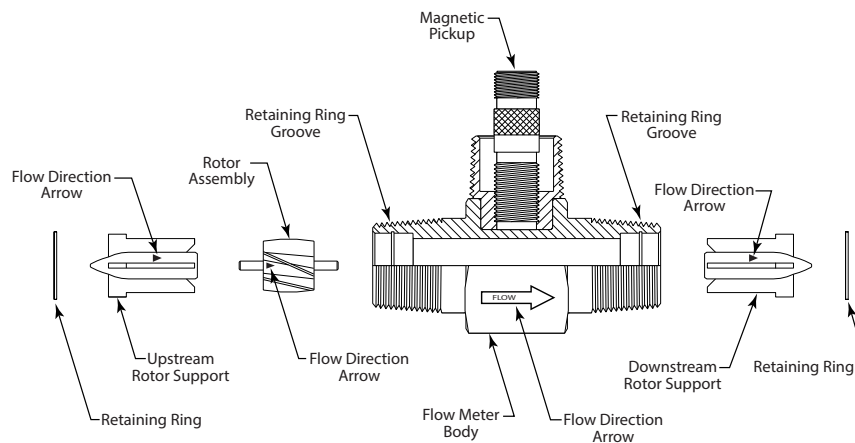
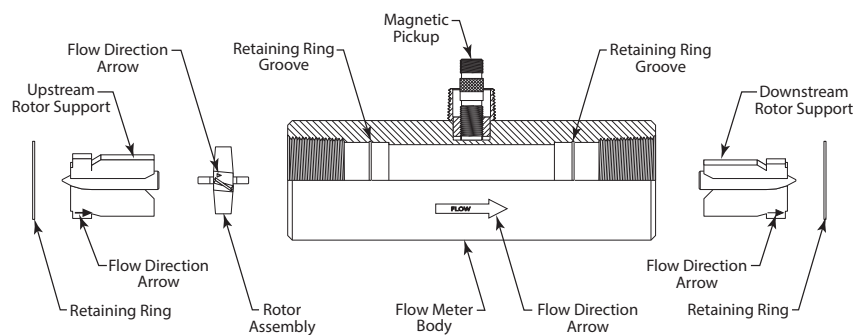
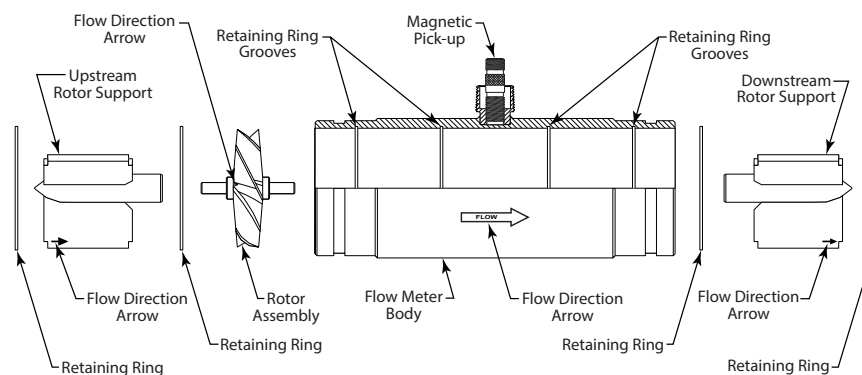

Figure 7: Component positions for B110-375...B111-115 and B111-121
Figure 8: Component positions for B111-120 and B111-130
Figure 9: Component positions for B111-140 and B111-200
1. Refer to *Figure 7*, *Figure 8* and *Figure 9* for relative positions of repair kit components.
NOTE: 4 in. and larger meters have two retaining rings (one on either side of the rotor) that require removal before the rotor can be removed (see *Figure 9*).
Before reassembly, note that an arrow is cast or engraved on each component. The arrow indicates the primary flow direction. When reassembled, the arrowheads must point in the direction of the fluid flow. The arrows must also be oriented in the up position on both rotor supports. The magnetic pickup side of the body signifies the up position. Performance of repair kit calibration is in the up position. Reinstallation of the repair kit in the up position provides continuation of accurate measurements. Figure 7, Figure 8, and Figure 9 show the proper alignment and orientation of the repair kits.
NOTE: 4 in. and larger meters have a retaining ring at both ends of the rotor (see Figure 9).